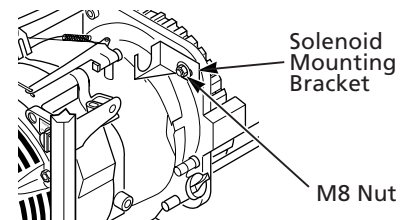
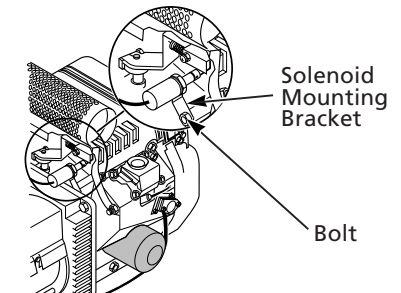

Figure 31 - Solenoid Bracket Location (Models 3WY46 and 3WY45 Only)
Figure 32 - Solenoid Bracket Location (Model 3WY47 Only)
4. Loosen the M8 nut that holds the solenoid mounting bracket to the generator (Models 3WY46 and 3WY45 only, See Figure 31). Do not loosen bolt that holds the solenoid mounting bracket to the generator on Model 3WY47, See Figure 32).